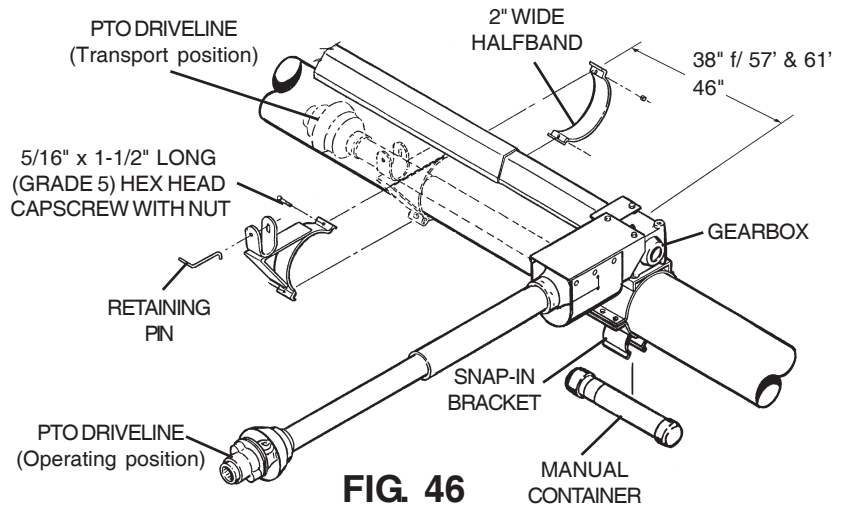

FIG. 46
Step 4. Place the PTO driveline support 46" up the auger housing from center of gearbox and attach in place using a halfband and two 5/16" x 1-1/2" long (grade 5) hex head capscrews and nuts. Be sure support is not installed where it is covering a safety sign. Position PTO driveline support to the auger, so that PTO driveline is parallel with the drive shaft cover. See Fig. 46 on page 38.
Step 5. Install retaining pin by slipping the short bent end of pin through hole in PTO driveline support and through slot of other side. Allow long end of pin to rotate down. This will secure pin in place. Set PTO driveline into the support to be sure support is installed properly. See Fig. 46 on page 38.
Direct PTO Drive - The snap-in bracket is welded to the bottom halfband used to fasten the gearbox mount to the auger housing. See Fig. 46 on page 38.